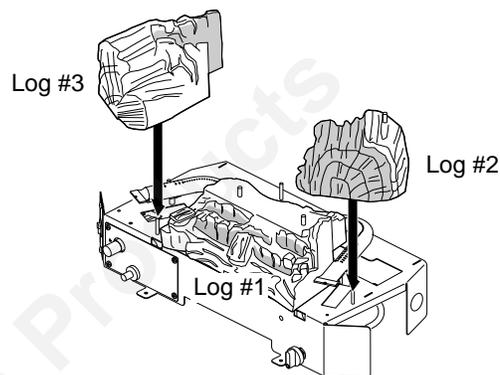
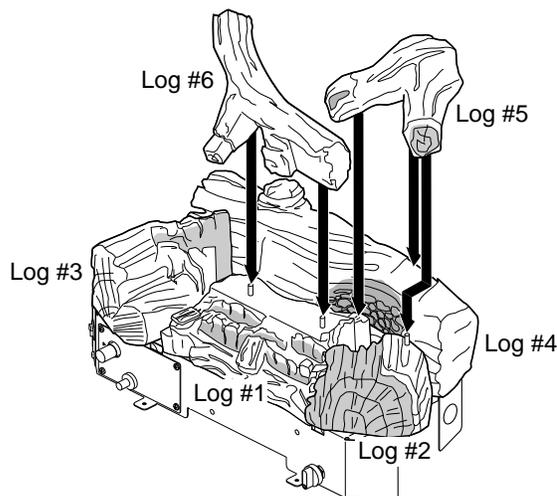

Figure 20 - Installing Log #2 (Right) and Log #3 (Left) (Model CSG3924NR Shown)
Figure 22 - Installing Log #5 (Right) and Log #6 (Left) (Model CSG3924NR Shown)
2. Place log #2 to the right of log #1. Log #2 will wrap around right end of rear burner and sit on log alignment screw (see Figure 20).
3. Place log #3 on left side of base and onto alignment screw to right of rear burner (see Figure 20). Log #3 will wrap around left end of rear burner.
5. Place back of log #5 on notch in log #4 (as shown in Figure 22), across back part of log #1 and onto pin on log #2 (see Figures 20 and 22).
6. Place log #6 onto two pins on log #1 (ember bed) and rest back of log #6 on back log #4 (see Figure 22).